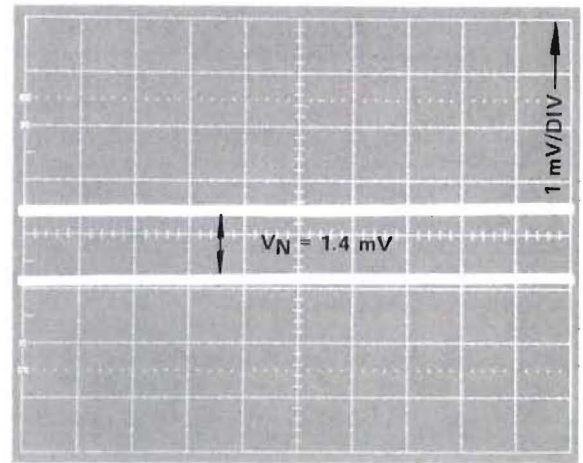

Figure 43 Measuring Separation between Two Traces
- 4. Disconnect the inputs and measure the separation between the two traces in volts. This is VN (Figure 43).